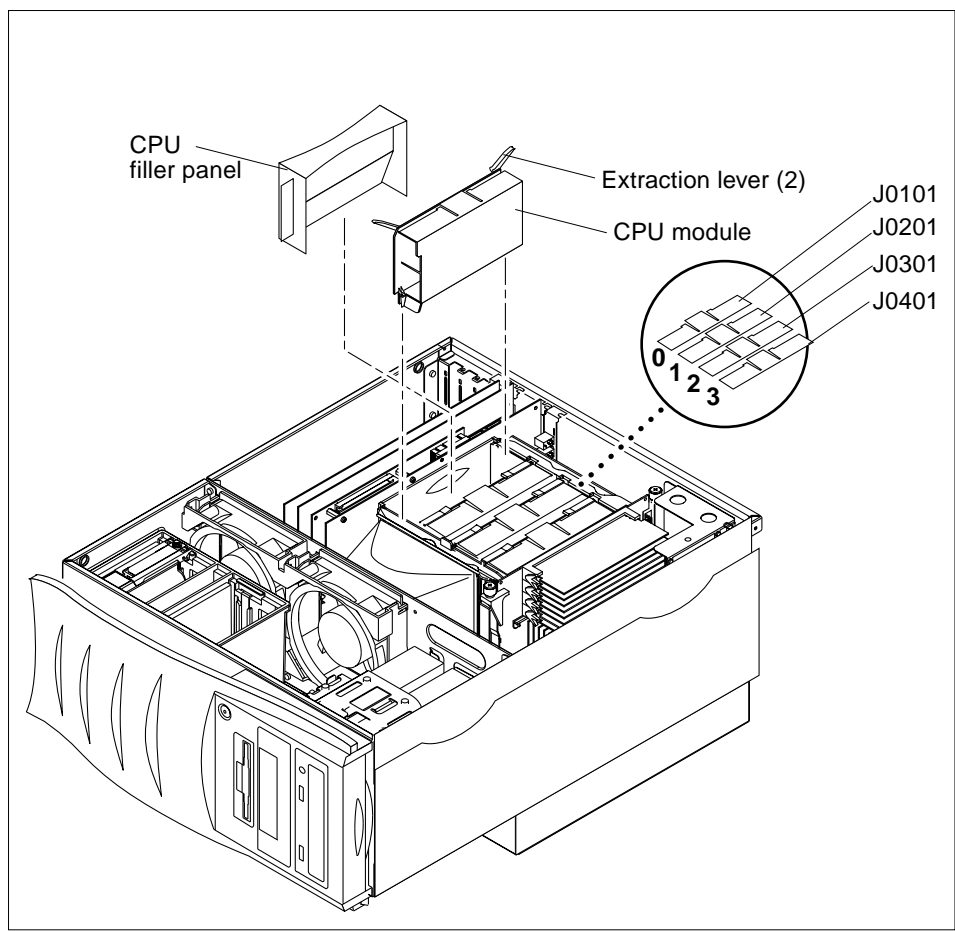

FIGURE 9-1 Removing and Replacing a CPU Module
**3. Remove a CPU module as follows (FIGURE 9-1):**
1. **Replace a CPU module as follows (FIGURE 9-1):**